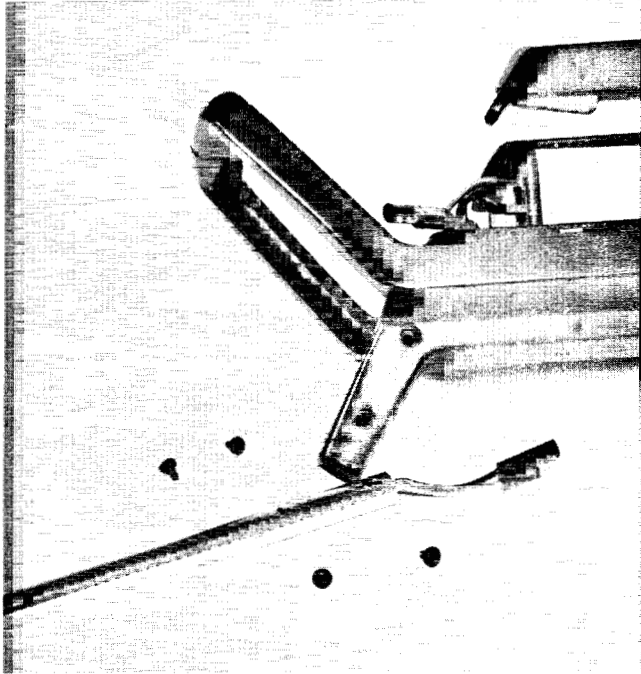

Figure 5.41a
- B. Remove the 4 screws and pull the handle tube from power pack case (fig. 5.41a).